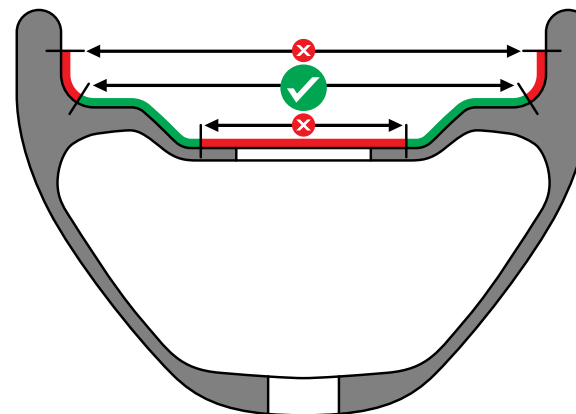

Fig. 6.1
- If you are using rim strips or rim tape, make sure the rim strip is the correct width (Fig. 6.1) so it covers the spoke holes, but does not come up the sides of the sidewall.